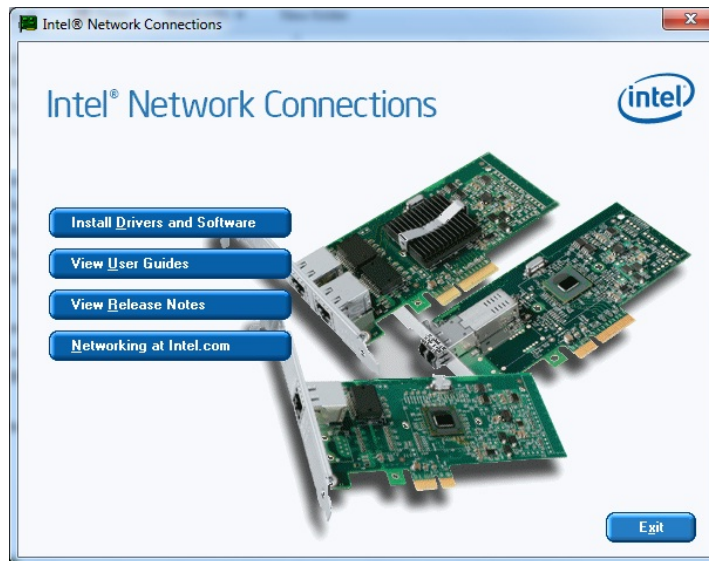

Figure 6-8: Intel® Network Connection Menu
Step 5: The Intel® Network Connection menu in **Figure 6-8** appears.